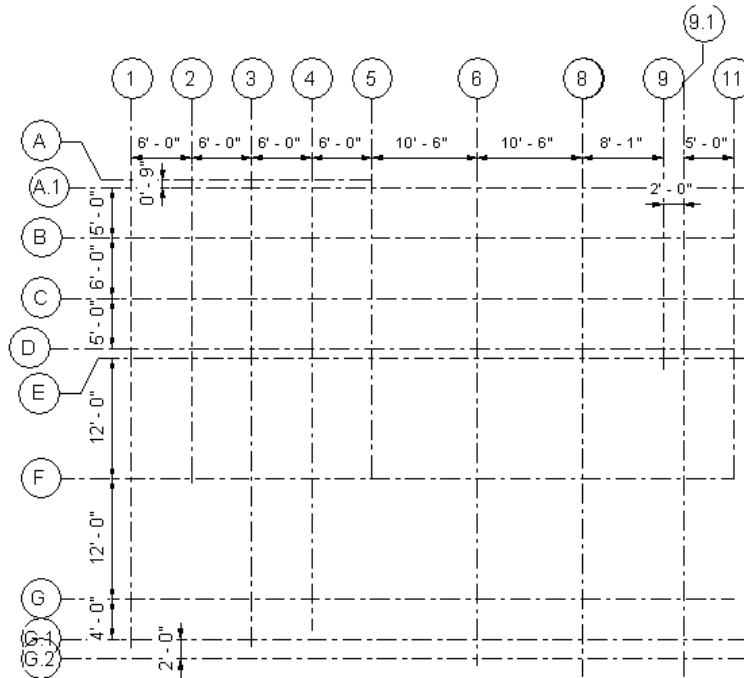

Figure 3-66 The grid lines with new names for the Academic Institution structure
In this exercise, you will create project information for the project created in the Exercise 1 of Chapter 2. Further, you will also add levels and grids to the project file. Refer to Figure 3-66 for grid dimensions and names. Use the following project specifications:
7. Grids to be added in the **Entry** project view using the dimensions and names as shown in Figure 3-66.